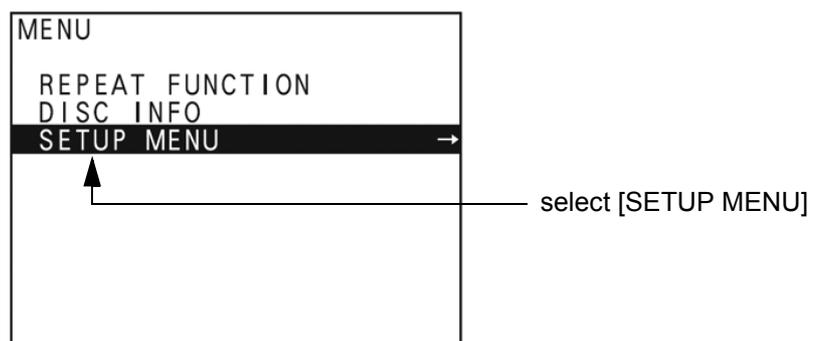

Figure 3-80 "Main Menu" - [SETUP MENU] highlighted
- 3.) The "Main Menu" appears on the LCD screen of the DVD recorder, see: Figure 3-80 below.